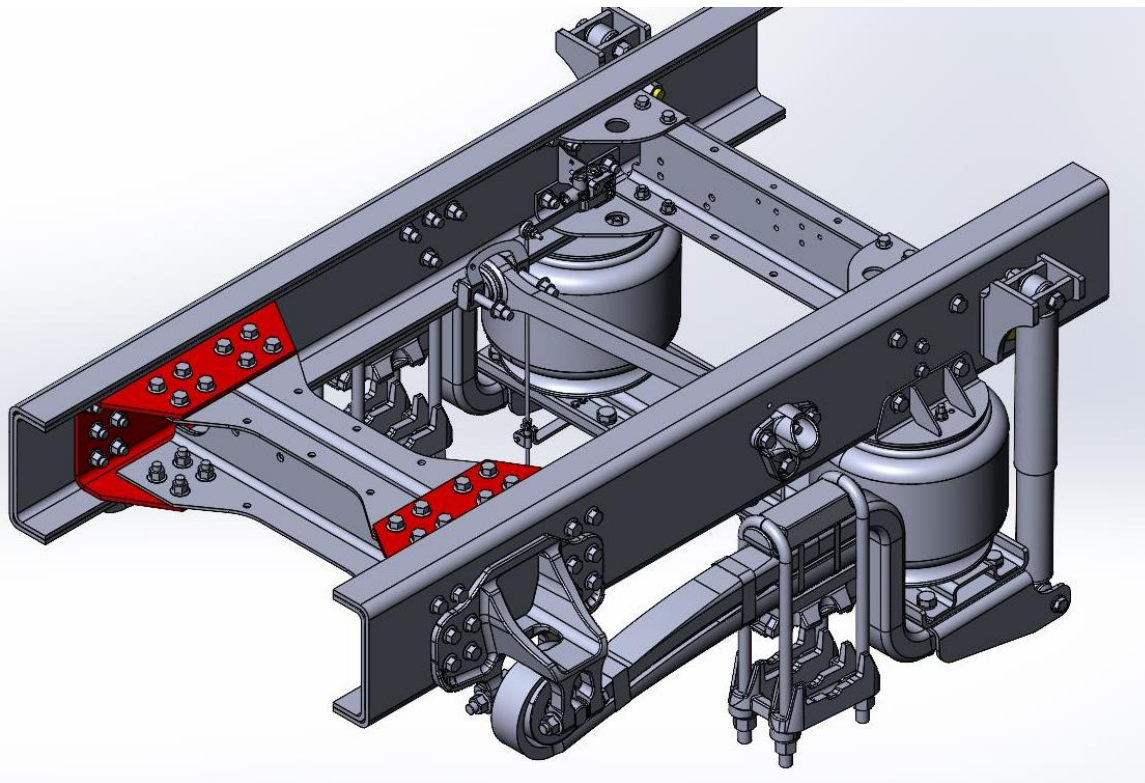

Figure 2.1
- 1) Inspect gussets for cracks that connect the double crossmember to the frame rail assembly near front mount of rear suspension as shown in Figure 2.1.